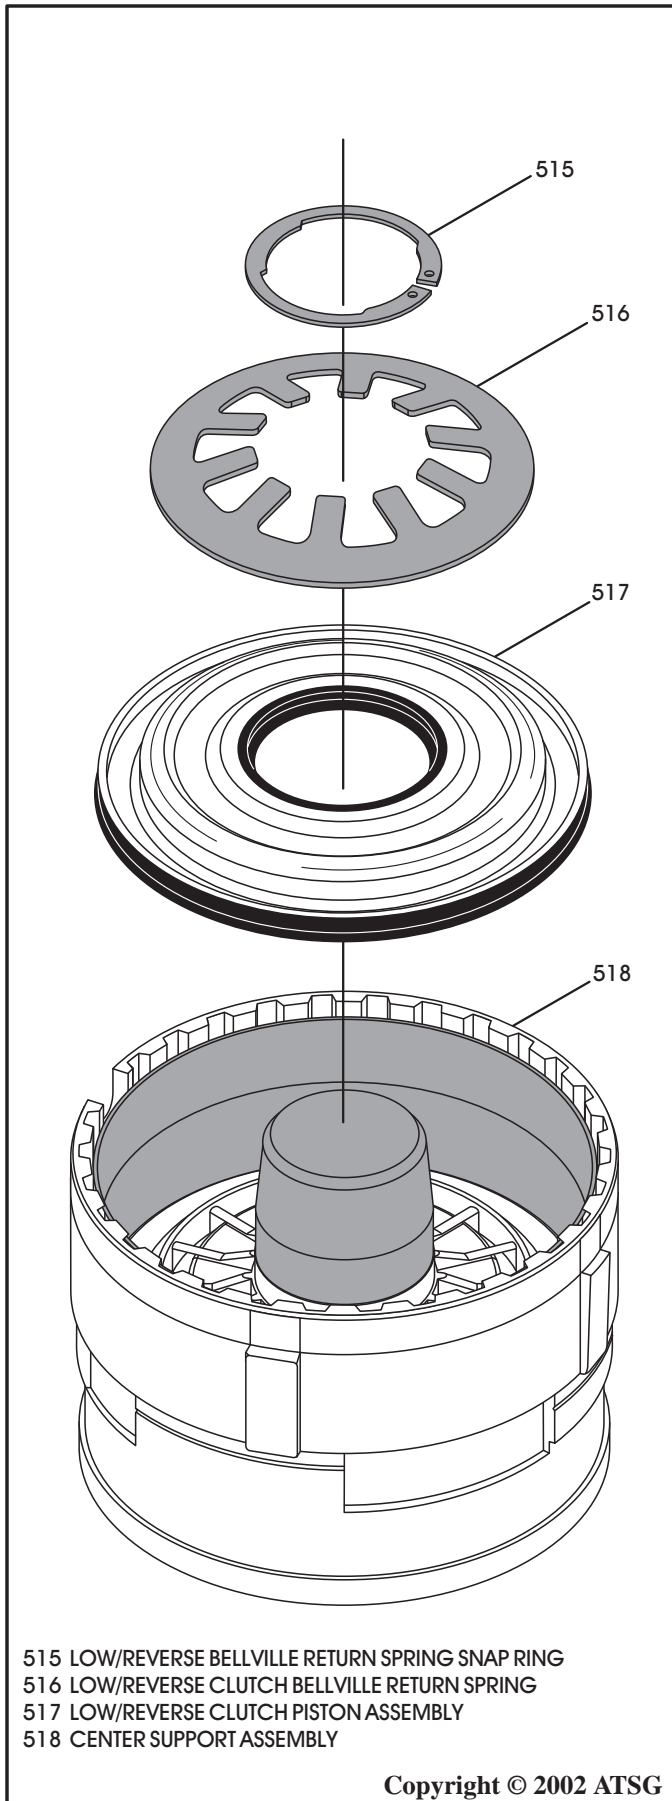

Figure 134
6. Lubricate the low/reverse clutch piston seals with small amount of Trans-Jel® and install the low/reverse clutch piston in the center support, as shown in Figure 134.
8. Install the low/reverse clutch "Bellville" return spring, as shown in Figure 134.
9. Place the assembly on foot press, compress the return spring and install the retaining snap ring (See Figure 134).